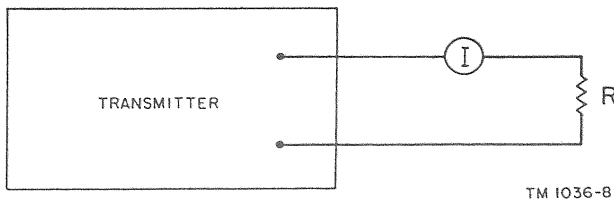

Figure 8.  $I^2R$  Method Power Measurements
b. The power dissipated in a resistor is given by the relation  $P=I^2R$  where  $I$  is the current through the resistance  $R$ , illustrated in Fig. 8. One of the oldest methods of measuring transmitter power at low radio frequencies depends upon this relationship. This was generally done by opening the radio frequency line and inserting a thermoammeter. Such a system is probably limited to frequencies below 50 megacycles.